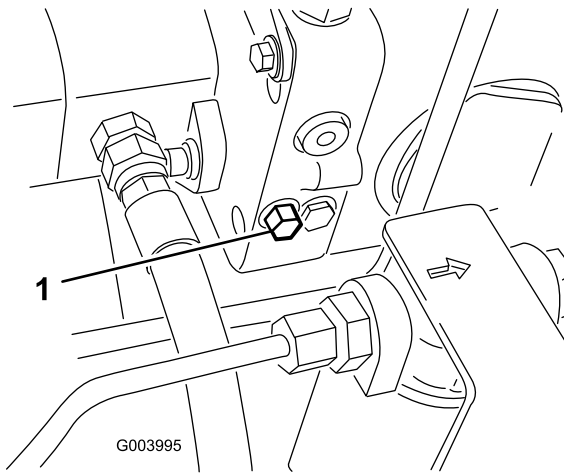

Figure 36
1. The bypass valve is located on the left side of the hydrostat (Figure 36). Rotate the bolt 1-1/2 turns to open and allow oil to bypass internally. Because fluid is bypassed, the machine can be moved slowly without damaging the transmission.